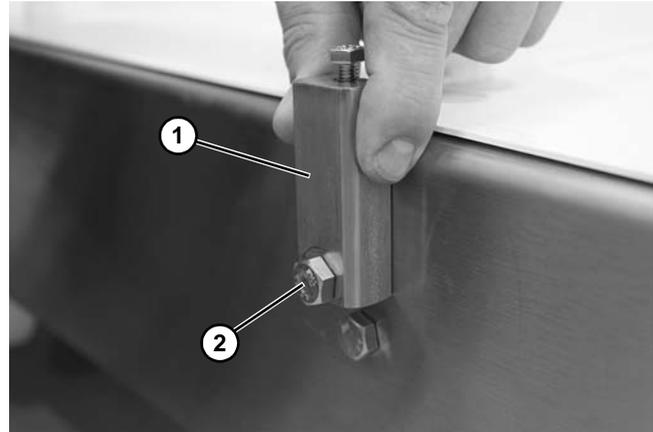

Figure 18
2. Assemble the mounting block (Figure 18, item 1) to the conveyor side with the bolt (Figure 18, item 2) provided with the mounting block.